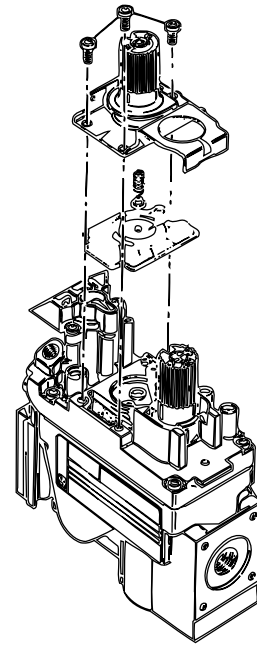

Figure 2.1 Removing Regulator
- Follow the instructions steps 1-3 that are included with the regulator. Save the label included in the kit for later attachment to the appliance. See Figures 2.1 and 2.2.